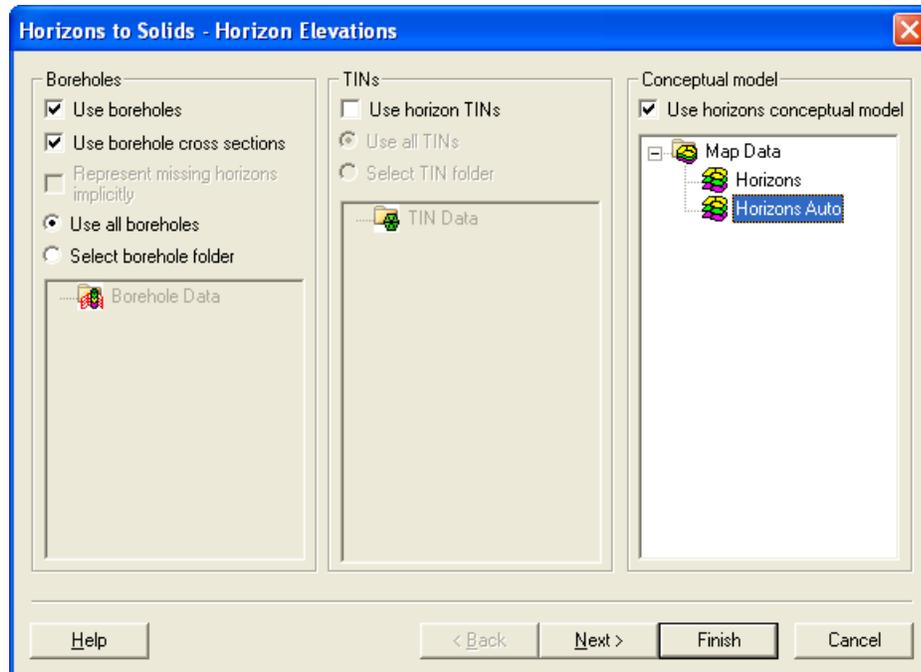

Figure 7. Horizons -> Solids, Using a Horizon Conceptual Model.
3. Select the options as shown in Figure 7 and click *Finish*.